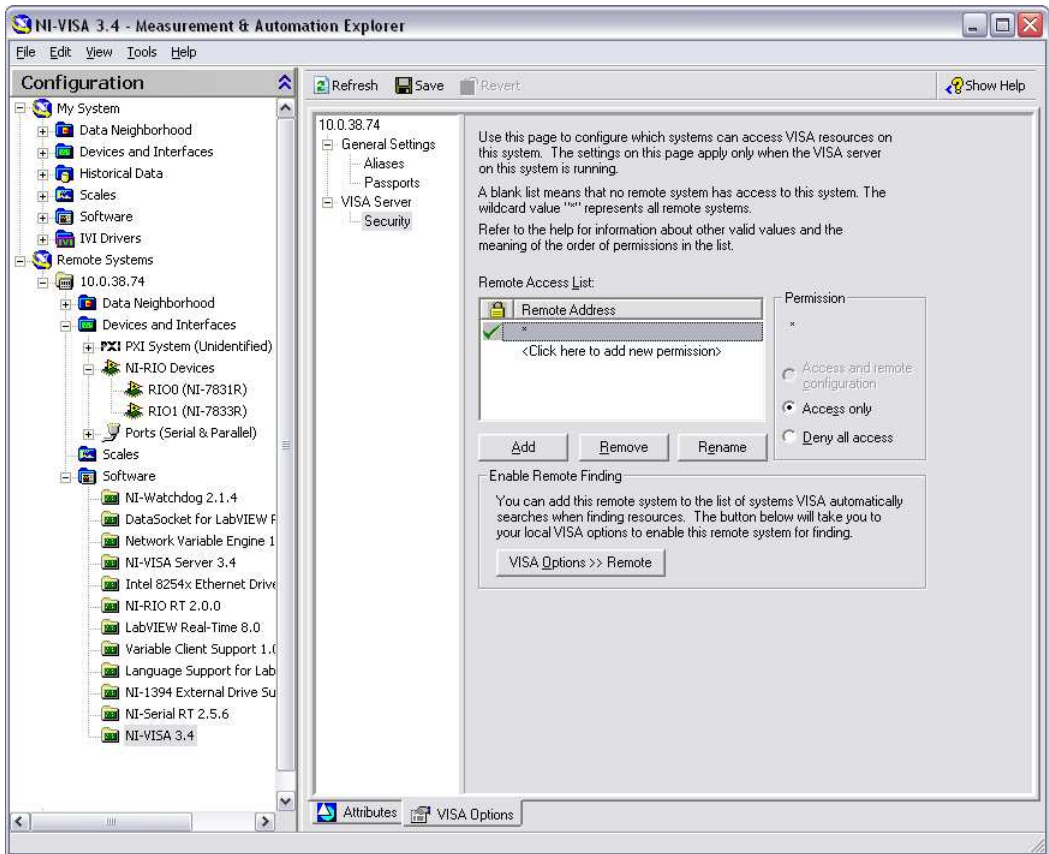

Figure 1. Setting Access Permissions for Remote Systems
4. On the **VISA Options** page, select **VISA Server»Security** to view the **Remote Access List**, as shown in Figure 1.